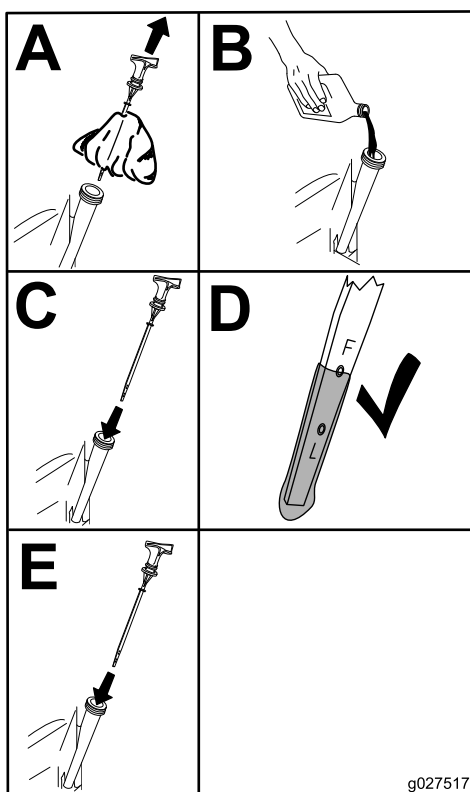

Figure 25
7. Slowly pour approximately 80% of the specified oil into the filler tube (Figure 25).